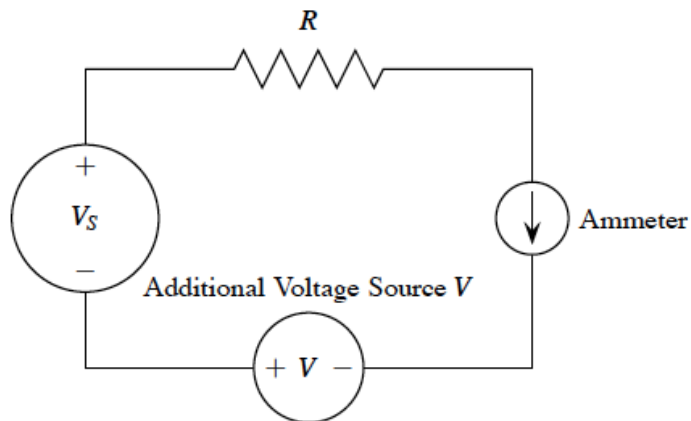

Figure 1.8: Circuit for 1.4.2
- The value of the quarter watt resistor in Figure 1.8 below is unknown. Construct the circuit and use the laboratory equipment to find this value. Complete Table 1.4 and record the current value measured on the ammeter.